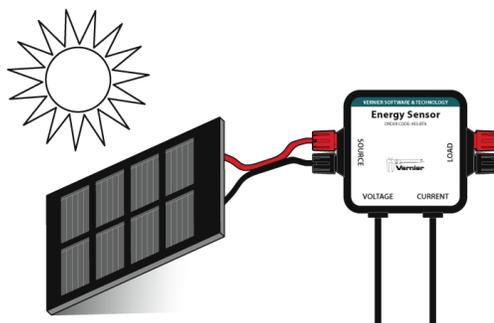

Figure 2
- a. Orient the solar panel so it is facing directly toward the sun (see Figure 2). Keep the solar panel in this orientation. **Caution:** Do not look directly at the sun.